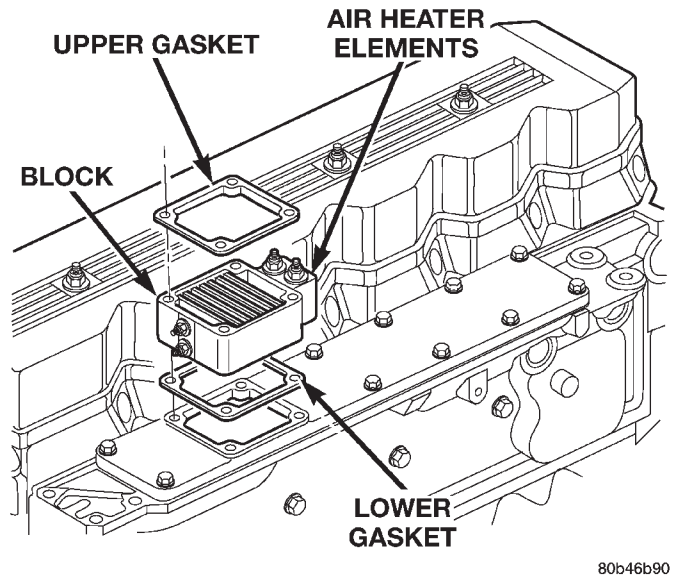

Fig. 59 Intake Manifold Air Heater (Elements)
(12) Remove intake manifold air heater element block from engine (Fig. 59). Discard old upper and lower gaskets